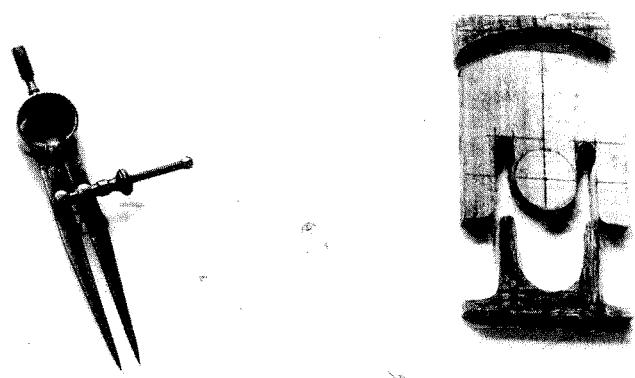

FIGURE 6-6
- 3** When you have double-checked that everything is well placed—the profile lines and the position of the pivot point—go back to the scroll saw and fret out the shape (Fig 6-6). As always, work at a nice, easy pace, all the while being ready to ease back if the blade starts